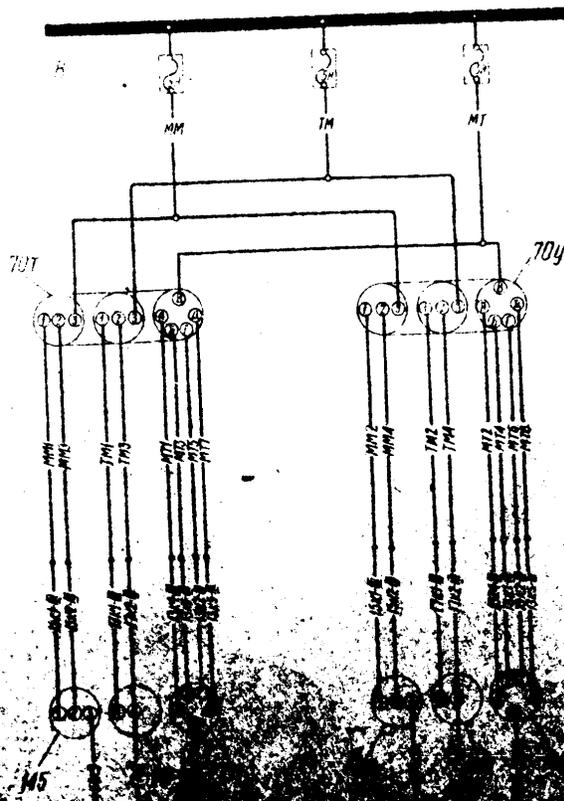

FIG. 94.
- the oil manometer /fig. 94 - 96/
- the fuel manometer /fig. 94 - 96/
- the oil thermometers /fig. 94 - 96/
/Fig. 94, 95, 96/
FIG. 94. Detail of the wiring of the relays MM, TM, MT, 707, 704, and M5. The relays MM, TM, and MT are of the type used in the M-5 system. The relays 707 and 704 are of the type used in the M-5 system. The relay M5 is of the type used in the M-5 system.